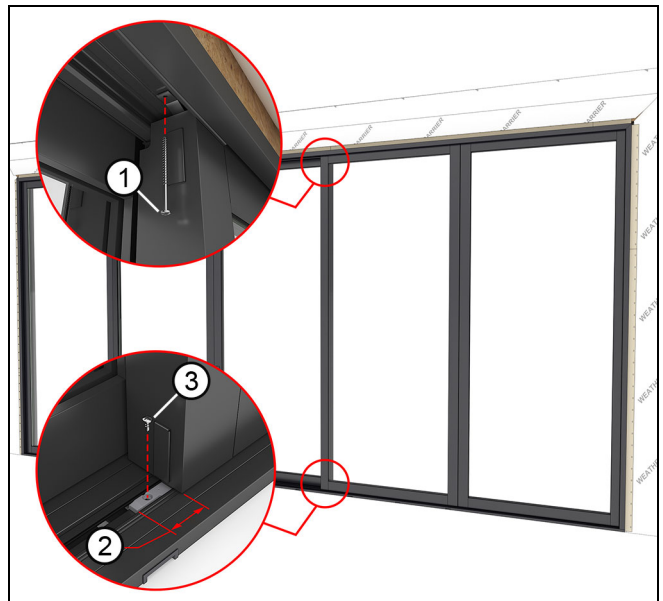

Figure 145
15. Bend the top stationary bracket of the (C) stationary panels up against the head jamb, pre-drill a 3/16" hole through the head jamb using the bracket as a template. Fasten through the bracket into the head jamb framing with a #10 x 3" installation screw. Shim as needed taking care not to bow the head jamb.
Fasten the lower stationary brackets on the (C) panels with a #8 x 1/2" screw. See Figure 145.